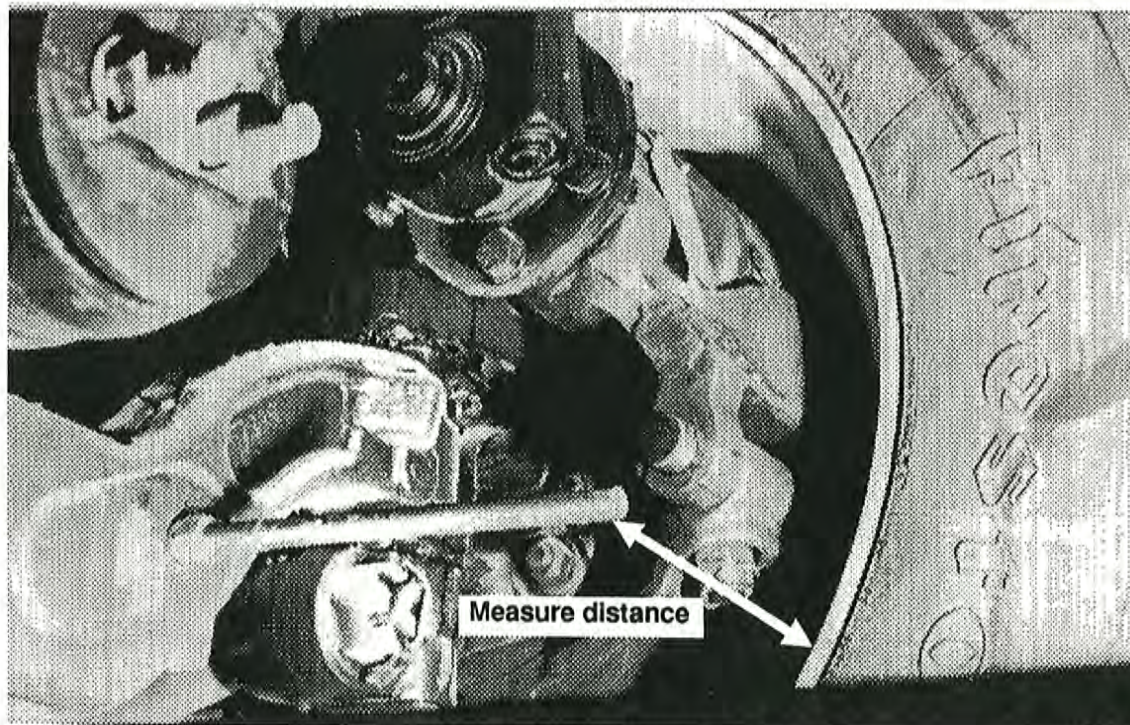

FIG. 4 - Pin Installation on axle
6. Position wheels perpendicular to axles by placing pins on axle (see figure 4); measure the distance between pin and rims on each side. The distance should be the same on each side. If not, adjust distance by pushing inside or outside of tires as required. For example, if the distance on one side is 7 1/4" and is equal to 7" on the other side, the final reading should be 7 1/8" on each side.